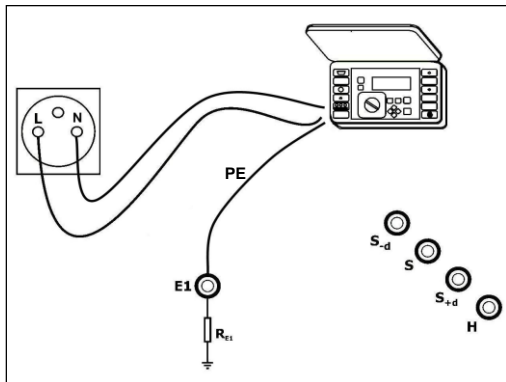

Fig. 13. Connection of the meter
- connect meter of the short circuit loop impedance in accordance with Figure 13,